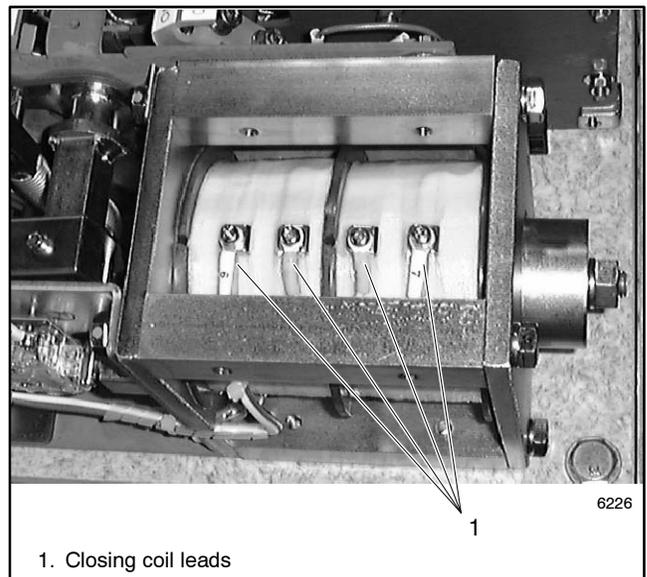

Figure 6-29 Closing Coil Connections
2. Note the connections shown in Figure 6-29 and disconnect the closing coil leads at four locations.
- d. Reconnect four leads shown in Figure 6-29.